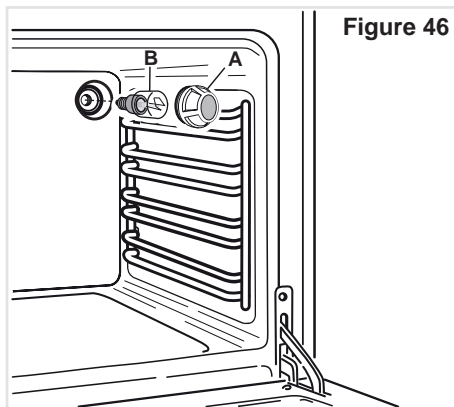

Figure 46
- Remove the protective cover “A” (fig. 46).